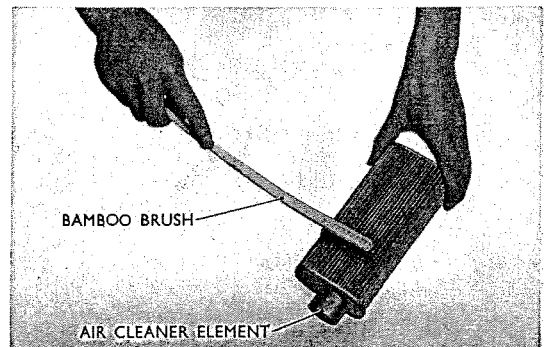

Fig. 6.24 Cleaning the air cleaner
- c. Clean with a brush or with compressed air. (Refer to Fig. 6.24)